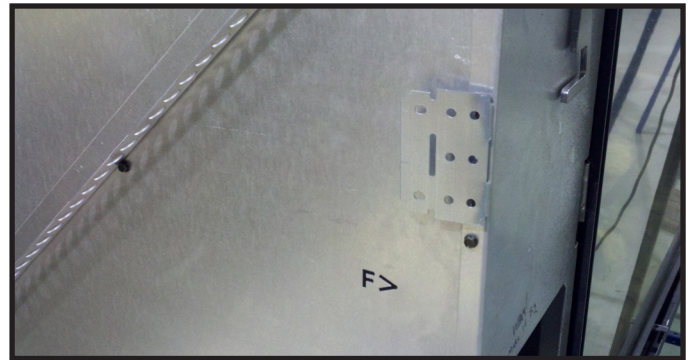
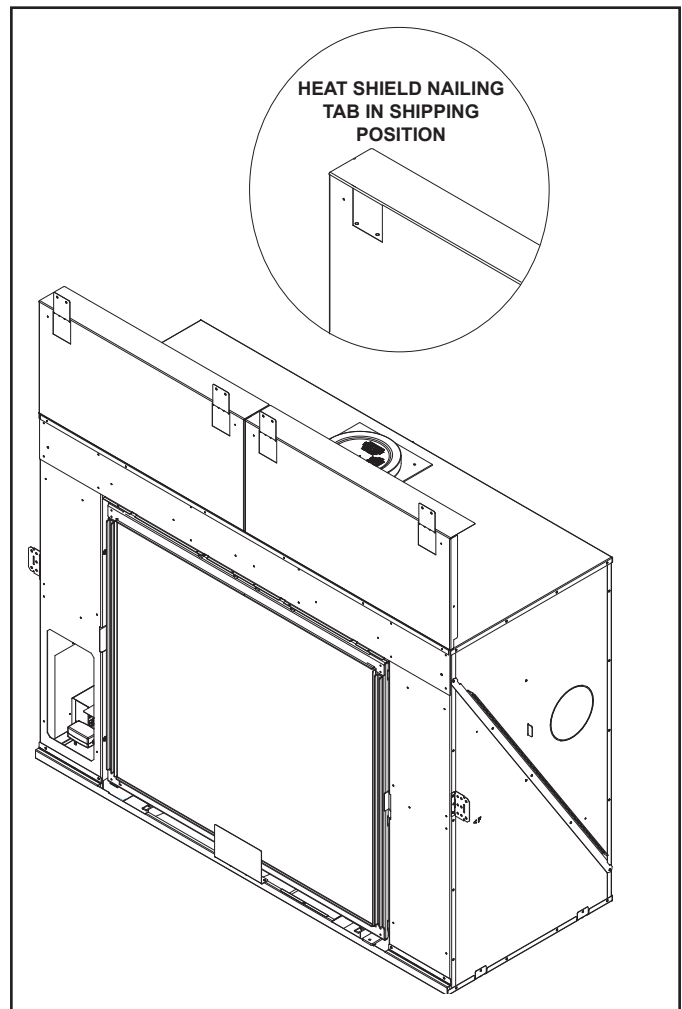

Figure 6.3 Side Nailing Tab in Shipping Position
Figure 6.5. Heat Shields and Nailing Tabs in Installation Position
Nailing tabs are provided on the appliance and on the heat shields to secure the appliance to the framing members. See Figure 6.3 and Figure 6.5 for location of nailing tabs in shipping position.
- Bend the top header heat shields upward to position them vertically and bend out the two nailing tabs on the top of each header heat shield. Secure to framing. See Figure 6.5.